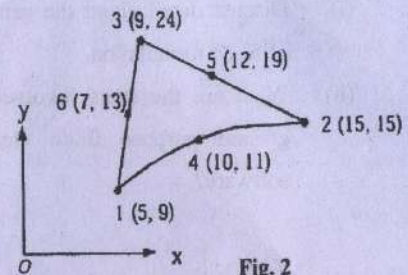

Fig. 2
- (ii) For the quadratic, isoparametric triangular element shown in Fig. 2 map the point $\xi = 0.5$ and $\eta = 0.25$ on the parent element to the corresponding point on the distorted element.